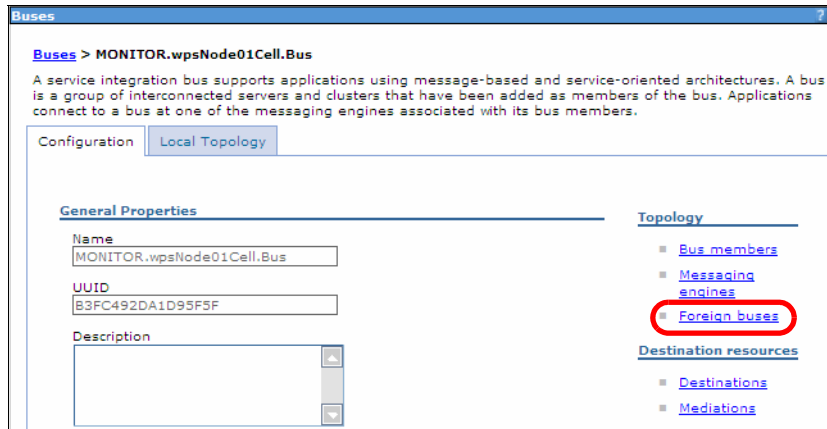

Figure 14-25 PROCESS_SERVER_BUS_NAME
- In the next panel, select *Foreign buses* (Figure 14-25).